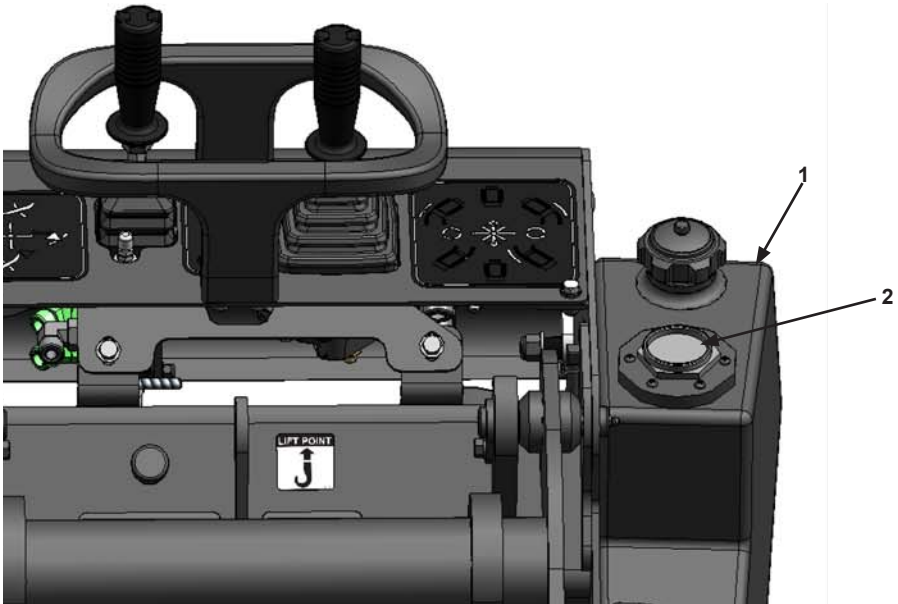

Figure 4-1 Fuel Level Check
- a. The Boxer has one saddle tank (Item 1, Figure 4-1), on the left side of the machine.
- b. The fuel tank has a fuel gauge located in the filler cap (Item 2, Figure 4-1). Remove cap and visually inspect fuel level to make sure that the indicator is showing the proper fuel level. Make sure that the tank has been filled on a daily basis. Carefully pour diesel fuel into the tank, not exceeding the max fill indication shown by the gauge in the fuel cap.